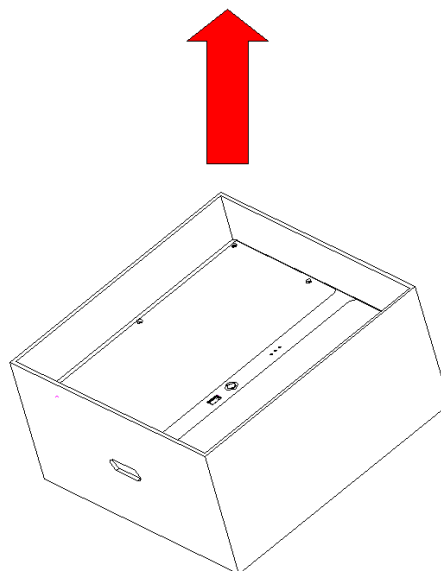

Figure 2.6 Open Storion-SMILE-B3 Packaging
Step 1: Take out Storion- SMILE-B3 from the packaging box, as shown in Figure 2.6.